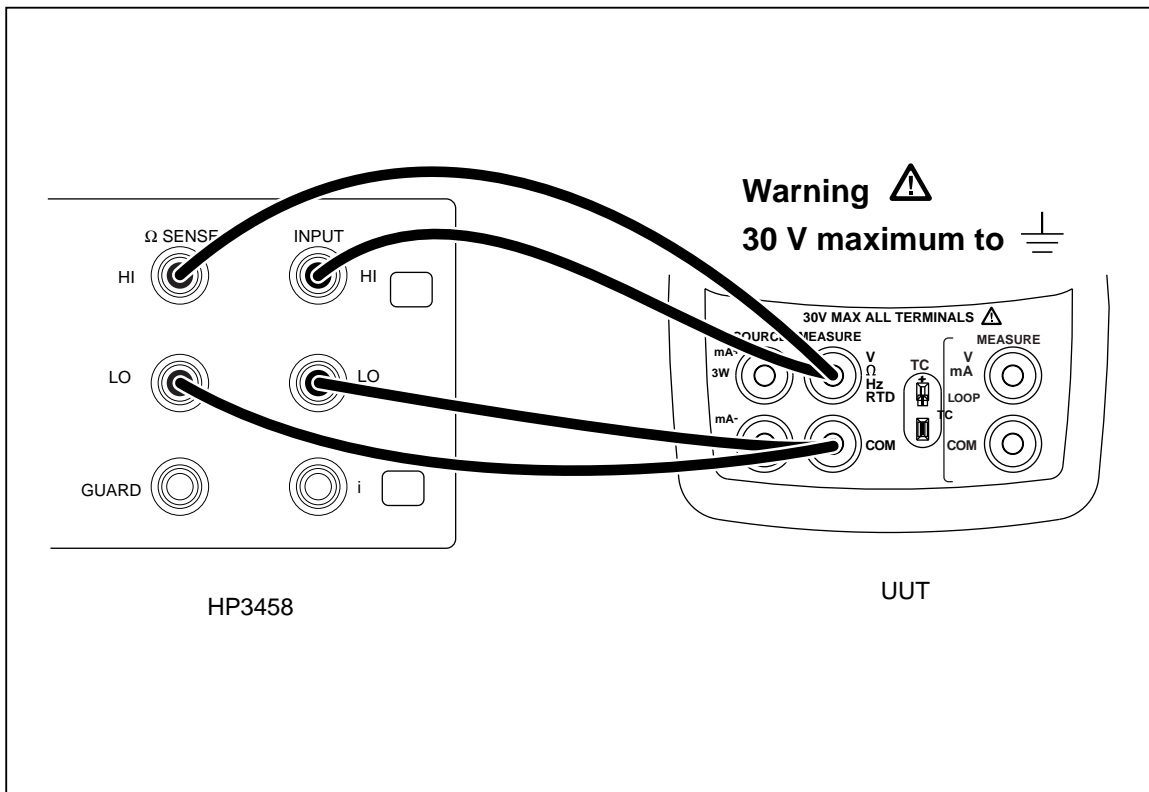

Figure 12. Lower Display Ohms Source Test Connections
3. Make the connections shown in Figure 12.